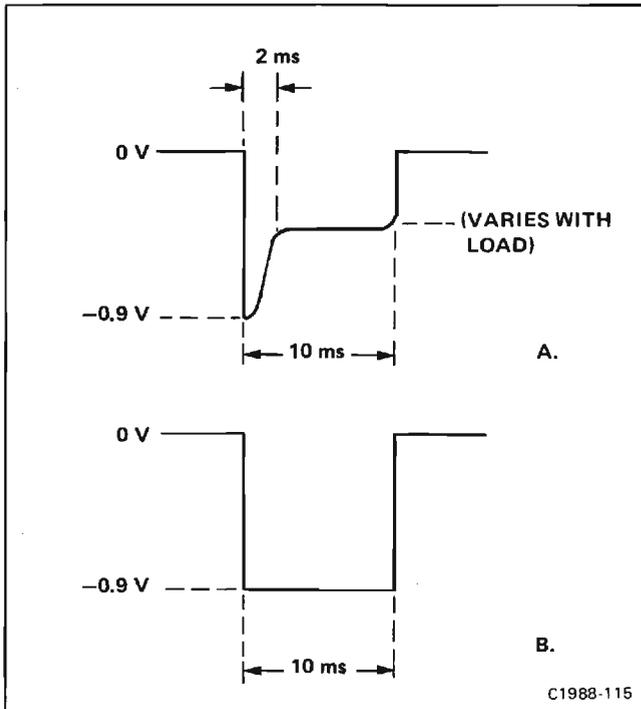

Figure 4-4. Current sensing waveform at R1284 showing:
3. Compare the waveform on the test oscilloscope to those shown in Figure 4-4. If the waveform resembles that of Figure 4-4A, proceed to Step E of this procedure. If it resembles that of Figure 4-4B, proceed with part 4 of this step.